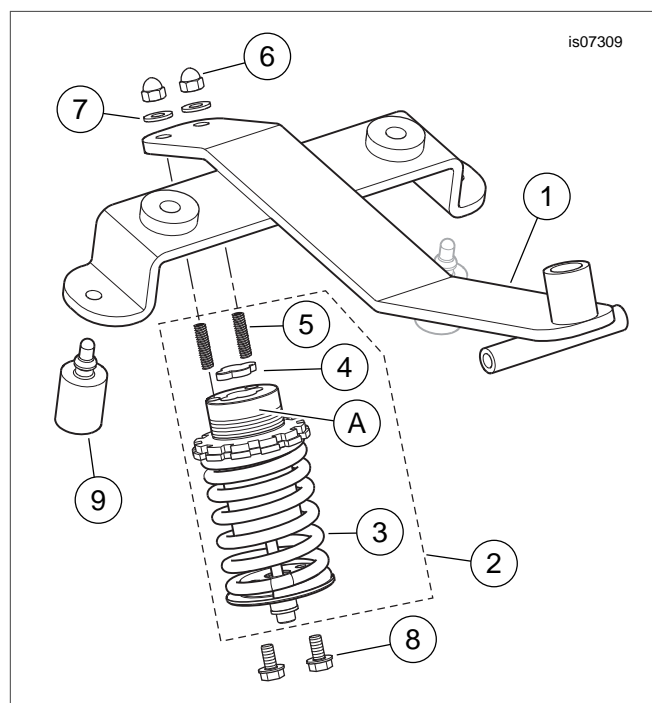

Figure 5. Service Parts, Police Seat Suspension Kit
See Figure 5 and Table 1.
1. See Figure 5. Place the seat spring (2) on the vehicle frame weldment. Align the holes on the bottom plate of the spring with the holes in the frame. Install two **new** screws (8) from the kit.
5. See Figure 5. Install the seat onto the **new** seat bracket (1). Secure with the two flange nuts and one hex head bolt (Figure 3, Items 19 and 20) removed from the air suspension seat bracket.
6. Place the seat and bracket assembly on the motorcycle. Install the front pivot bolt (2) and acorn nut (3). Tighten to 48-84 **in-lbs** (5.4-9.5 Nm).
7. See Figure 5. Rotate the top of the seat spring (2) so the upper threaded studs (5) are offset to the rear of the vehicle.
- Align the seat bracket with the studs and install the washers (7) and acorn nuts (6). Tighten to 60-84 in-lbs (6.8-9.5 Nm).
See Figure 5. Seat bracket bumpers (9) provide cushioning under certain riding conditions. If seat system is modified, ride comfort may be affected.
- See Figure 5. Remove the rubber cap (4). Remove the studs (5).